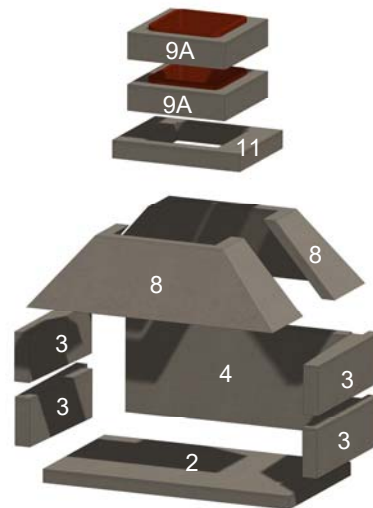
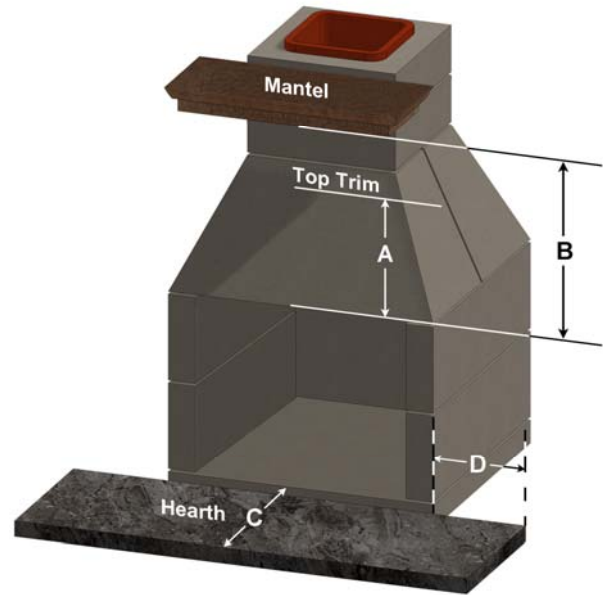

Figure 2. SA-48PS Exploded View
Figure 3. Patio Series Mantel & Hearth
The fireplace is delivered as a kit with all components necessary to complete the installation. Component arrangements are shown in Figure 2. Components are listed in Table 1. Specifications and clearances are shown in Table 2.
- A. Fireplace items shown in Figure 2 and listed in Table 1.
Note 1: Item numbers refer to component numbers in Figure 2.
Table 2: Clearances (See Figure 3)
Note 5: Clay flue liners installed in flue section (item 9A, Figure 2) meet the specifications of ASTM Section C315-02.
Select a location in the home plans or outdoor living area where all the minimum distances, as shown in Table 2 and Figure 3 can be met. Proceed as follows. Numbers in () are item numbers from Table 1 and Figure 2. Ensure the base on which the fireplace is to be installed is a solid and level foundation and is composed of non-combustible material, such as concrete.
If this is your first Stone Age installation, it is suggested that you first assemble the components without mortar to familiarize yourself with how the components fit together. See Figure 2.